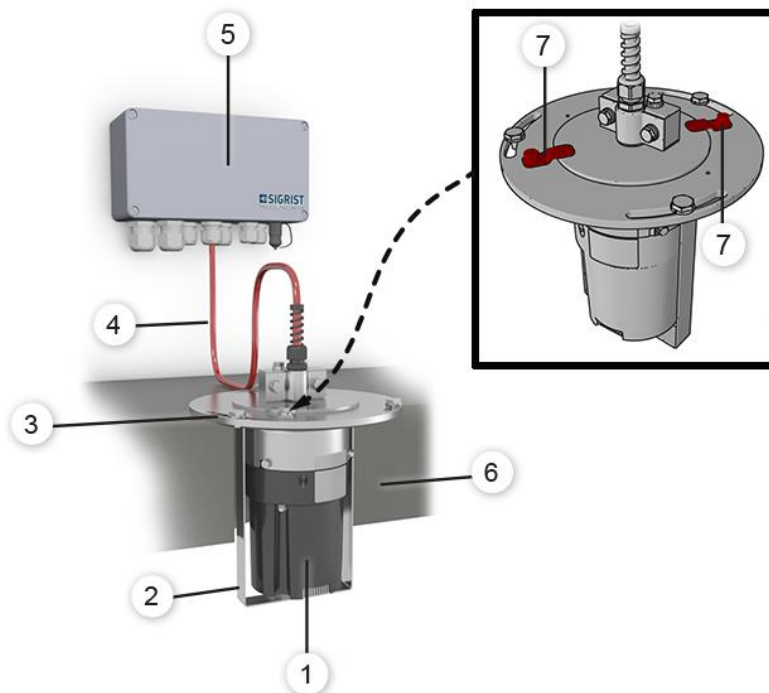

Figure 8: Installation in suspended ceilings
2.	Fasten the mounting set with pre-mounted FireGuard 2 on the mounting flange (Figure 8, pos. 3) with the three screws (circles). A: Tunnel ceiling i The bore holes for fastening the mounting set must be available.
3.	Align the photometer as follows: 1. Loosen the two fastening clips (Figure 8, pos. 7). 2. Align the photometer in the direction of travel. i The marking (X) must be aligned to the flow direction (Y) of the tunnel. 3. Tighten the two fastening clips (Figure 8, pos. 7) again.